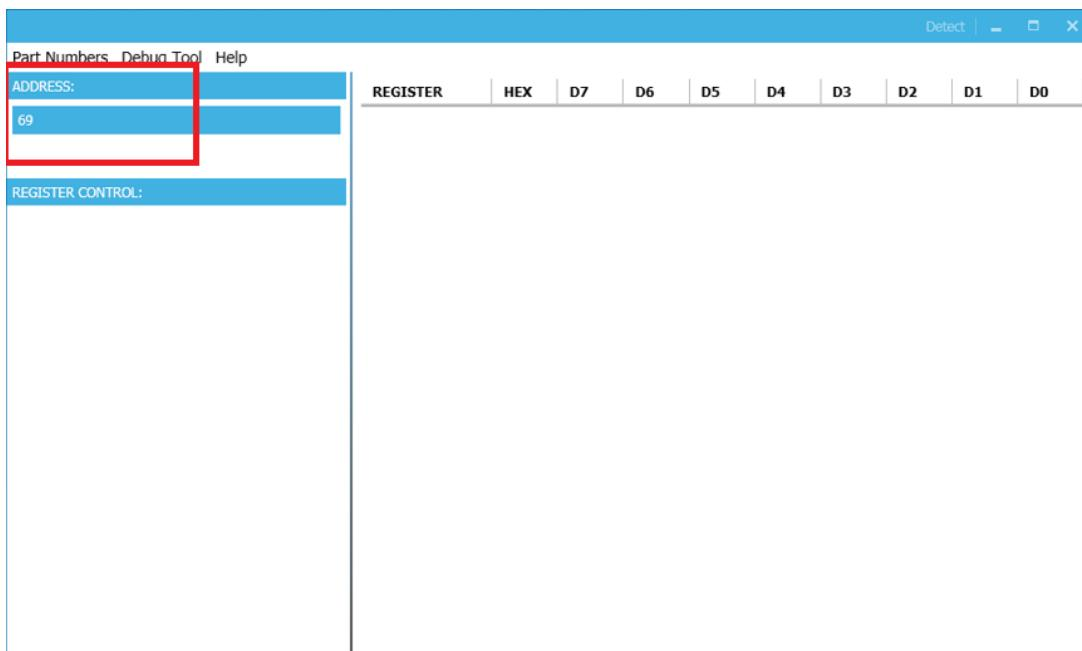

Figure 7: Appearance of Address Shows Successful Connection
- If connection is successful, the address will be listed in the "Slave Address" (see Figure 7).